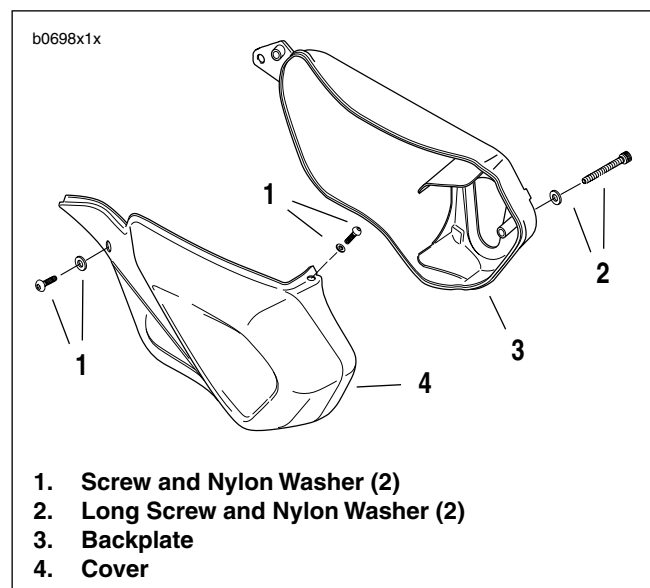

Figure 1-42. Air Cleaner Cover
1. See Figure 1-42. Remove two small screws and nylon washers (1).
2. Remove large screw and nylon washer (2). Lift cover (4) away from backplate (3).
2. See Figure 1-42. Position air cleaner cover (4) over backplate (3). Make sure air filter and trim are correctly positioned.
3. Install long screw and nylon washer (2). Tighten to 27-29 in-lbs (3.1-3.3 Nm).
4. Install two screws and nylon washers (1) to secure air cleaner cover. Tighten to 27-29 in-lbs (3.1-3.3 Nm).